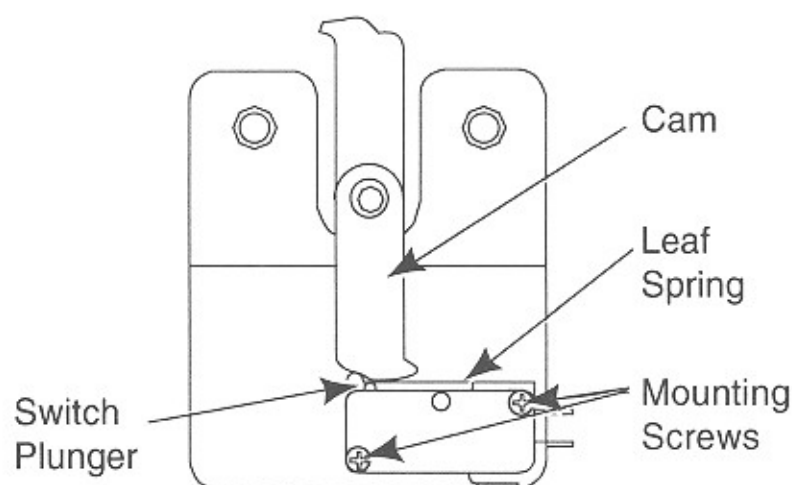

Figure 6-12. Cam Switch Adjustment
1. Check that the leaf spring is resting in the cam lobes and that the switch plunger just touches the bottom of the leaf spring as shown in *Figure 6-12*.
2. To adjust the switches, loosen the mounting screw under the plunger end and move the switch housing as described in the previous step (See *Figure 6-12*).